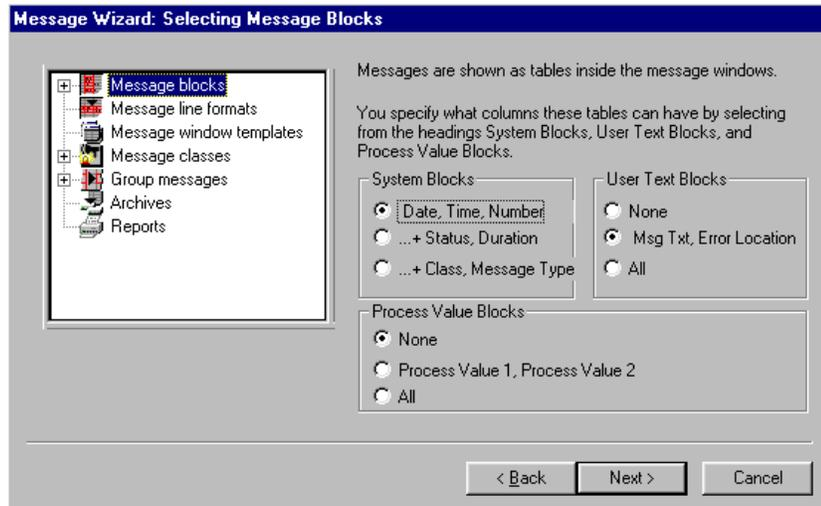

Figure 4.3a WinCC Project "QckStart"; The Message Wizard
To complete the Message Wizard, follow these steps. You can also refer Figures 4.3a-f.
2. On screen 2, "The Message Wizard: Selecting Message Blocks" screen, select " Date, Time, Number" and " MsgText, Error Location". Click "Next". View Figure 4.3a for reference.